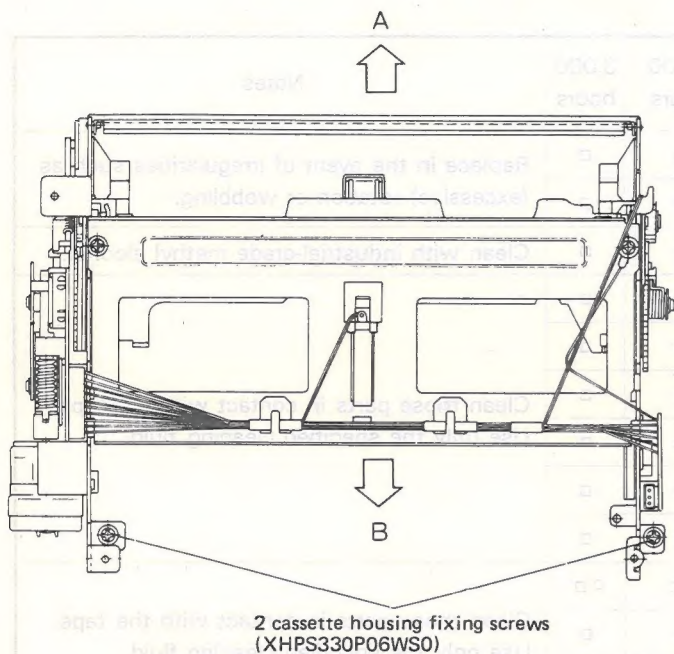

Figure 4
4. Slide the cassette housing in the direction shown by arrow A in Figure 4, and pull directly upwards.